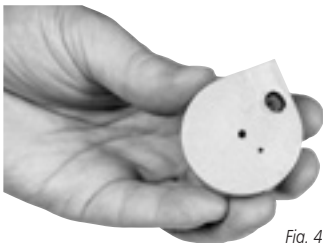

Fig. 4
2. Hold the magazine with its aluminum side over the transparent side. (Fig. 4)